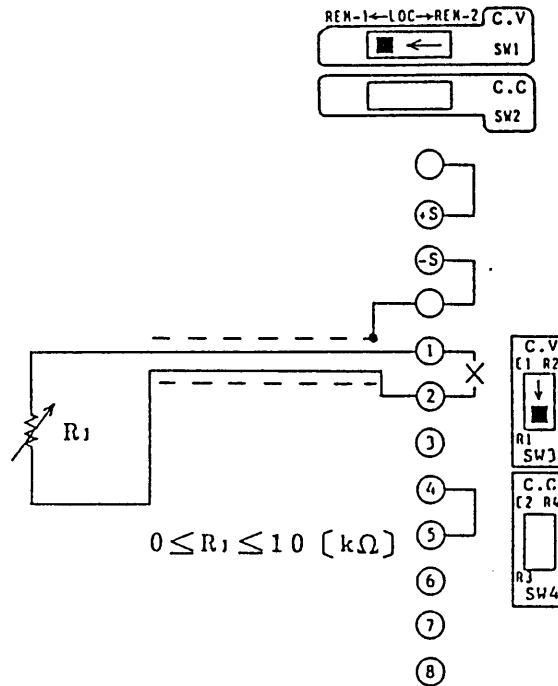

Figure 4-5
- (8) Regarding the switches for which no settings are specified in Figure 4-5, set them to the standard states as shown in Figure 2-23 (See Section 2.4.) or to appropriate states for respective modes (See Sections 4.1 through 4.11.).